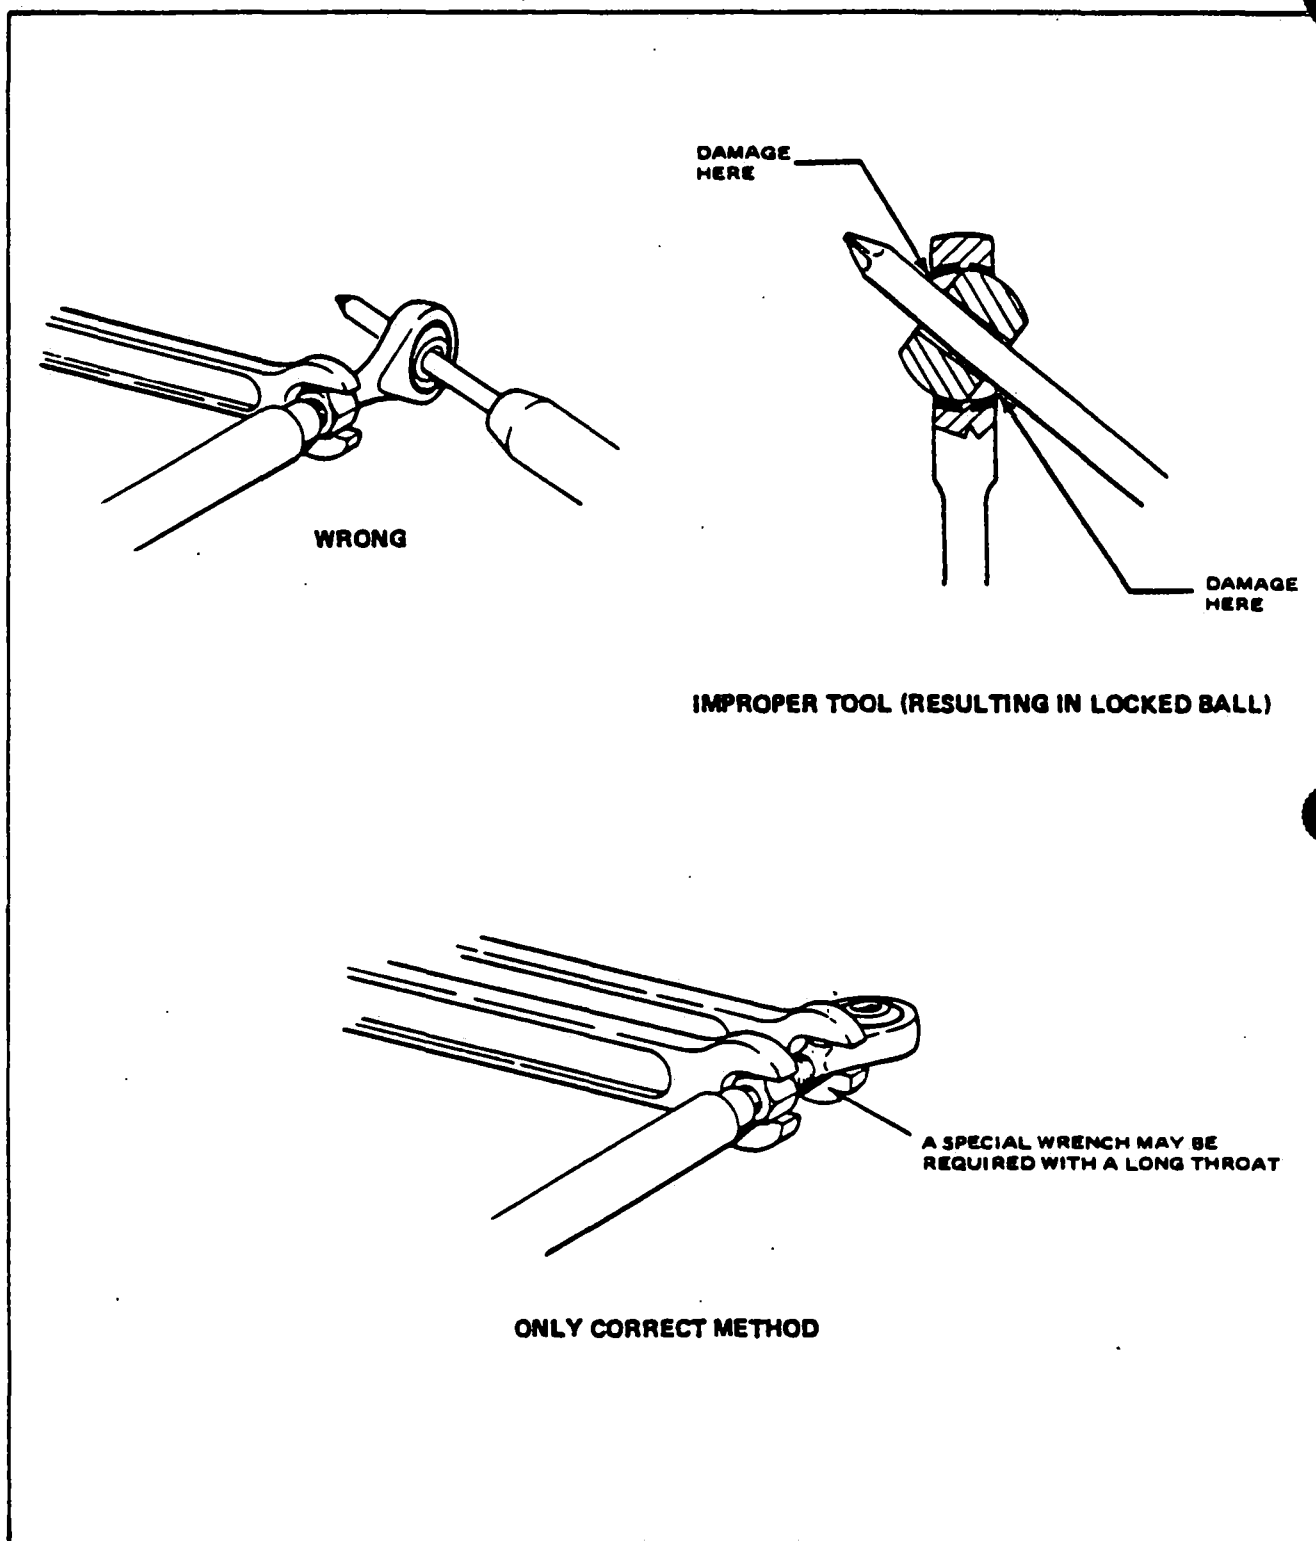

Figure 5-1a. Correct Method of Installing Rod End Bearings
- h. When installing rod ends refer to Figure 5-1a for proper installation method.